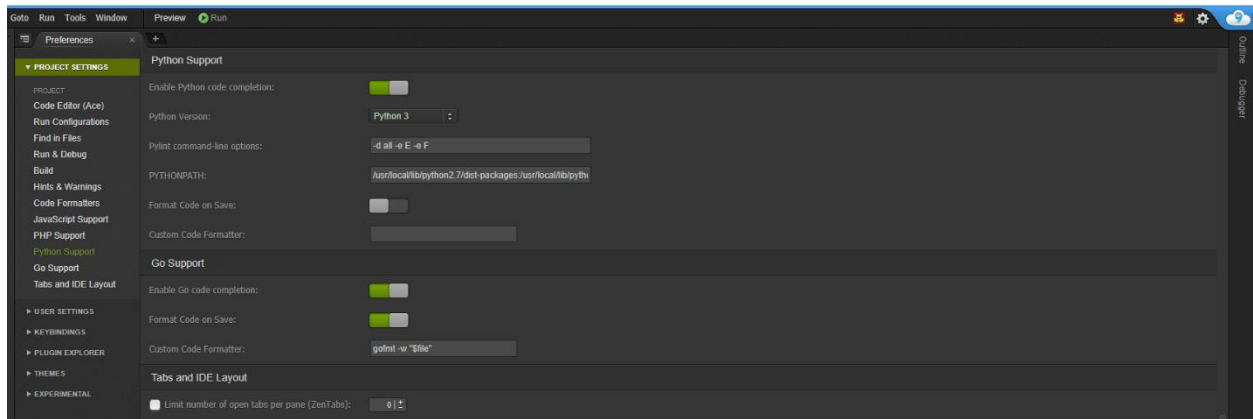

Figure 3
- c. In the menu, navigate to Project Settings > Python Support > and make sure the Python version is Python 3 similar to Figure 3 below.